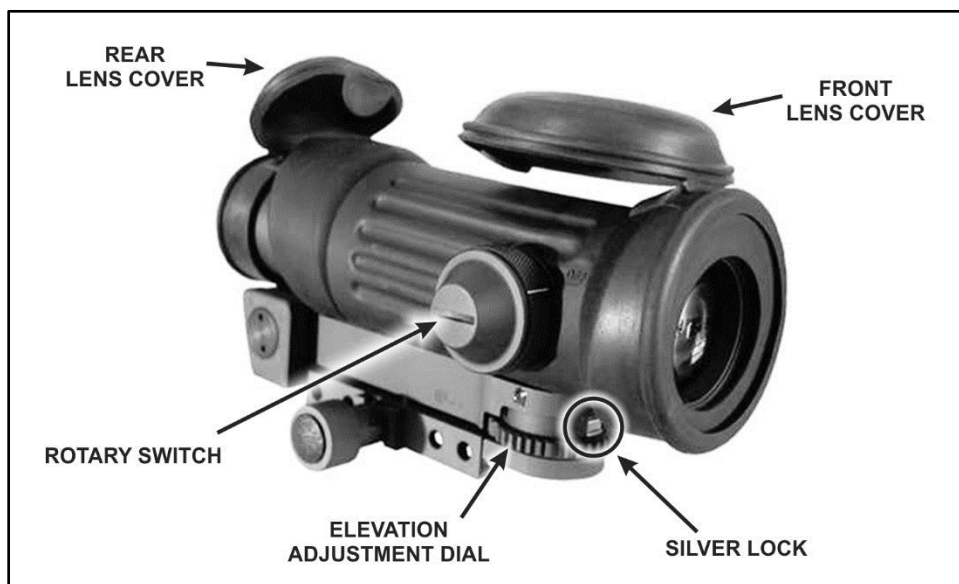

Figure E-7. M145 straight telescope
E-29. The M145 straight telescope (see figure E-7) is a fixed 3.4 power, 28-mm optical sight that has been designed to engage targets accurately out to 1200 meters. The telescope weighs 24 ounces (681 grams) and is extremely rugged for rough field conditions. The telescope has an 8.2-mm diameter exit pupil, which provides excellent vision in low light levels, dawn and dusk, and also allows for rapid target acquisition.
6. Repeat steps 1 through 5 until the strike of the round coincides with the center of the target. Close the silver lock. (figure E-7, page E-9 and figure E-10, page E-11) down to prevent any further movement of the elevation adjustment dial (figure E-7, page E-9 and figure E-10, page E-11). The telescope is now 10-meter zeroed.
1. To make reticle illumination adjustments, turn rotary switch (figure E-7, page E-9) clockwise. The intensity of the illumination increases as the switch is turned.
2. Turn rotary switch (figure E-7, page E-9) to OFF position when the telescope is being used during normal daylight or when illumination is not required.